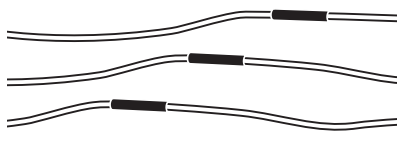

Fig. 7 Completed splices
6. Continue to apply the heat to the tubing using care not to let the flame directly contact the tubing. When the tubing shrinks and the sealant flows from the ends of the tubing, the splice is complete; see fig. 7.